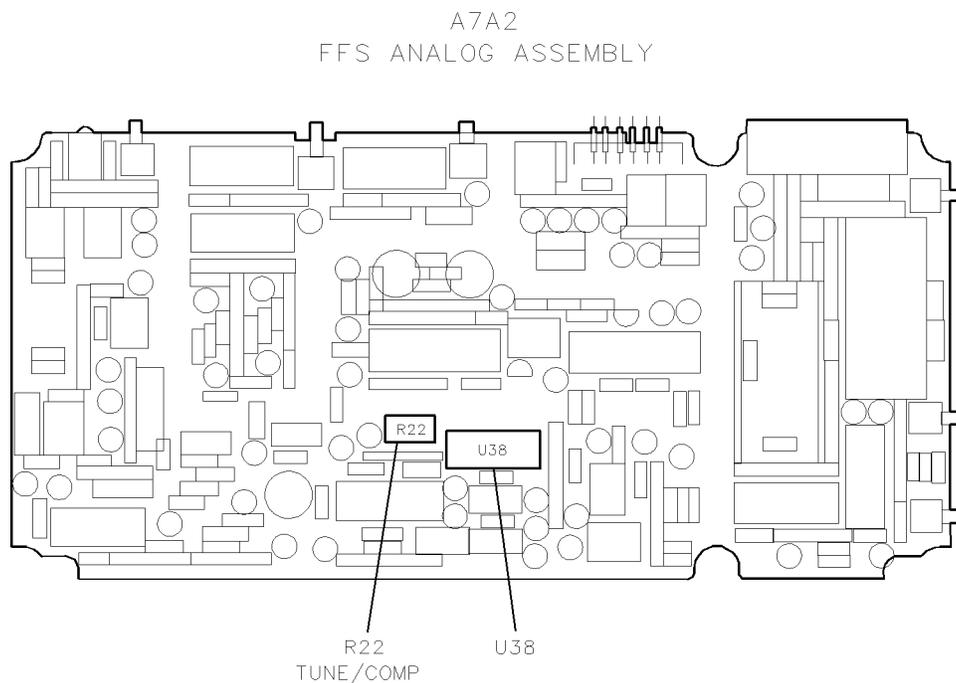

Figure 6-16. Locations for Adjustment 08. FFS Tune/Comp Coarse
3. Connect the voltmeter's positive lead to A7A2 FFS analog (U38) pin-4 and its negative lead to A7A2 FFS analog (U38) pin-11. See Figure 6-16.